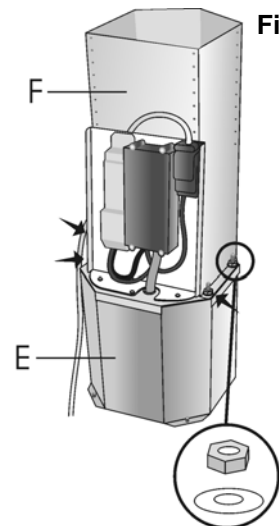

Fig. 11
8. Remove the four nuts and the four washers and take the motor block (E) off the bottom structure (F) – Fig. 11.